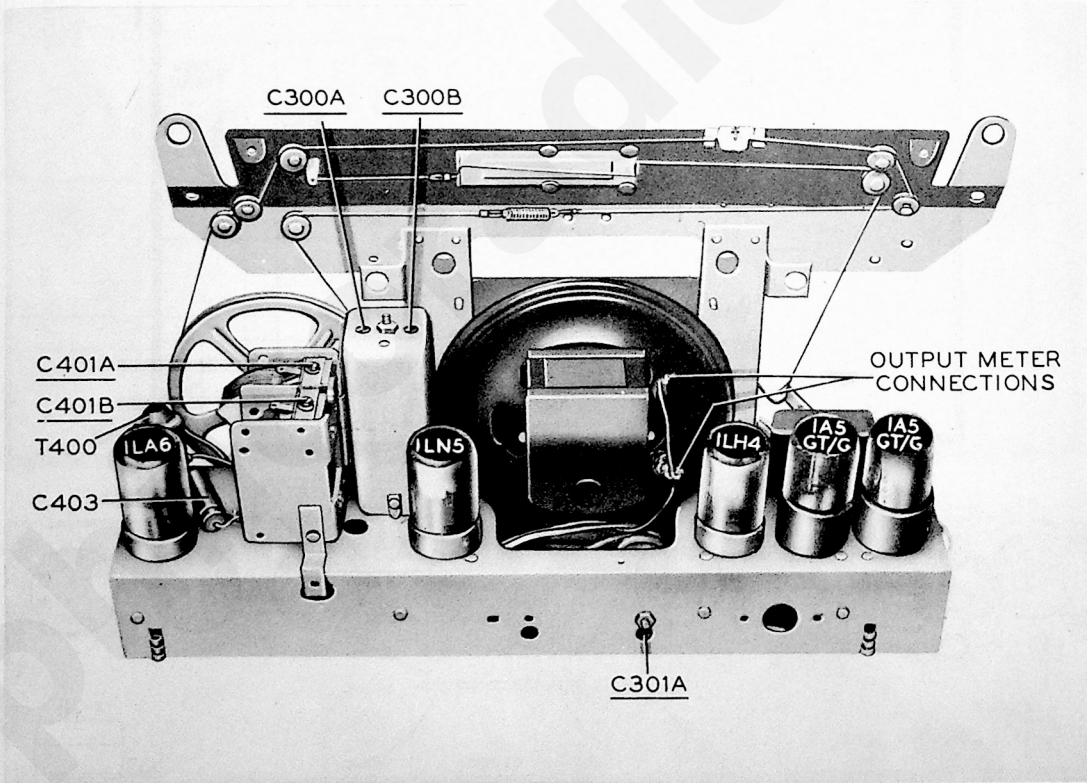

Figure 11. Top view, showing trimmer-condenser locations.
**OUTPUT METER.** Connect to voice coil of speaker, as shown in figure 11.